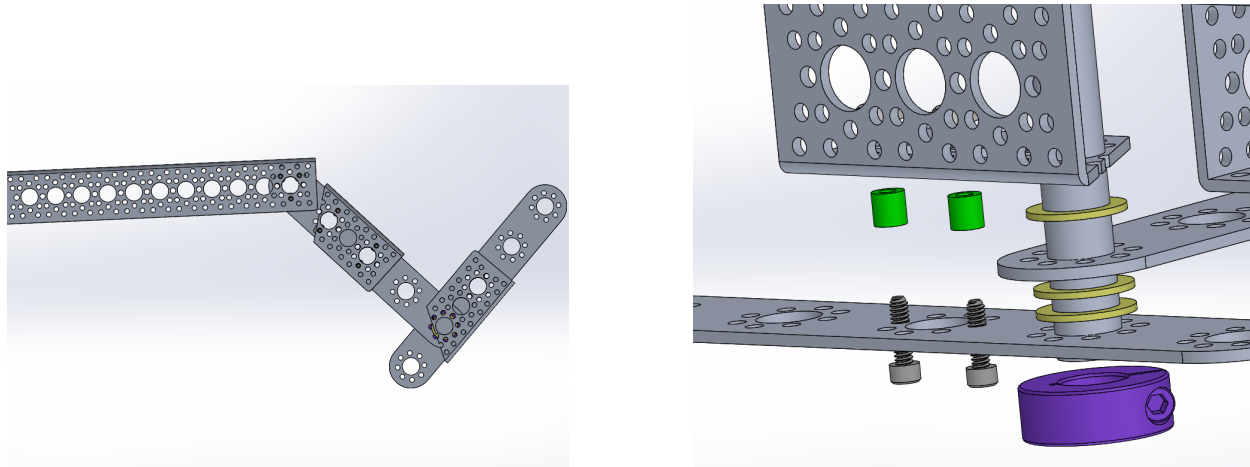

Figure 4: Start Rocker-Bogie pivot joint
1. **Begin the Rocker Attachment:** Attach 9 inch channel **S5** and the a modified 3 inch channel **S2A** to pattern F bracket **S7** making sure to put a 6-32 washer **W1** in between them, and use screws **B2** and hex nuts **B11**. Make sure that the cut modification in **S2A** is angled towards the 9 inch channel, this can be seen better in Figure 4 clearer